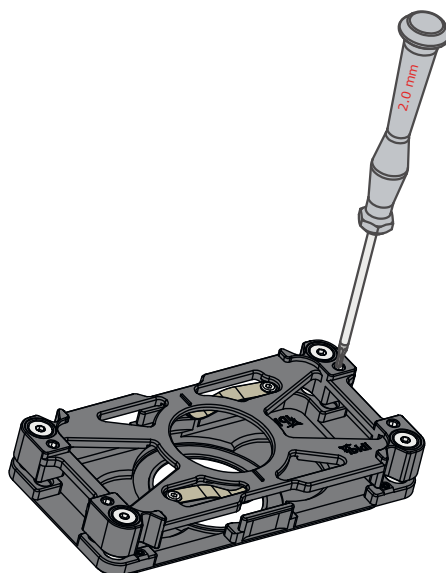

Figure 16: Use the 2.0 mm hex key to adjust the four screws to minimize the tilting of the upper part of the Holder.
The Dish Holder – Silver Line fits most of the commercially available 35 mm dishes (compatible dishes are listed in Section 4.7). The clip springs on the Holder compensate for slightly different heights. To minimize the tilting of the upper part, the gap can be adjusted with four screws (Figure 16). For this purpose, a screw driver (hex key 2.0 mm) is supplied.